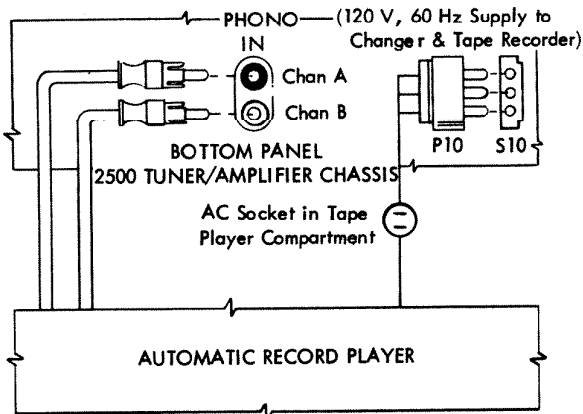

Fig. 8
12. Fig. 8: Connect the shielded audio cables between the Record Player and the Tuner/Amplifier and connect plug P10 to socket S10.